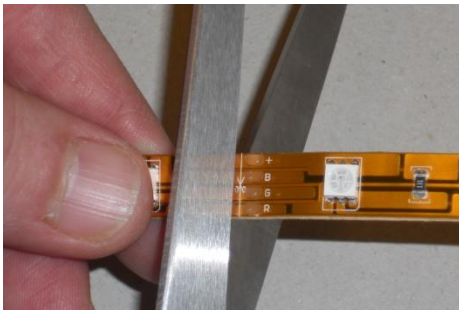

Figure 1
- 2) **Cutting the RGB LED ribbon to desired length:** Using scissors the RGB LED ribbon can be cut on the clearly marked cutting line which is located every 3 LEDs except where the solder drops are located on the ribbon (*Fig. 1*). The solder is located every 19-1/2 inches on the ribbon. Cutting mid circuit will damage the ribbon in that section and it will not operate.
- 3) **Connectors:** Included in each package of RGB LED ribbon are (3) RPS-24 Ribbon to RGB Controller connectors and (1) RPS-24 affixed to the start of the reel of ribbon. RTR series Ribbon to Ribbon Connectors are sold separately.